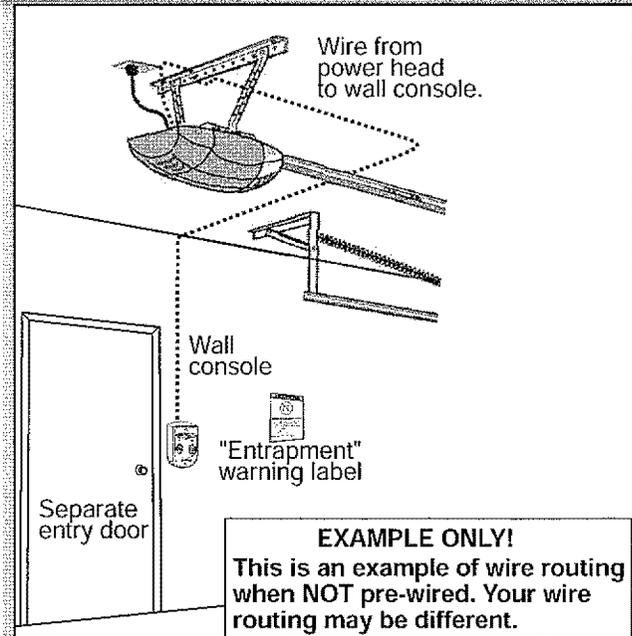

FIG. 3-1 Wall Console wire routing
- Locate wall console pre-wired wire ends (Fig. 3-1). (They should be located within the guidelines mentioned above.)
- Pick a convenient location for mounting wall console using the guidelines mentioned above (Fig. 3-1).
- Run wire from wall console to power head (Fig. 3-1).